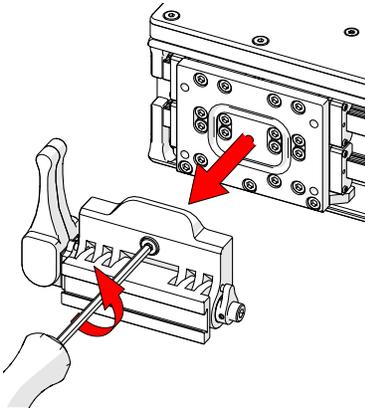

Fig. 61 - Remove pivot nose
1. Using the supplied 3 mm hex driver, remove the Raster Arm HT pivot nose (*female*) from the Raster Arm HT (Fig. 61).